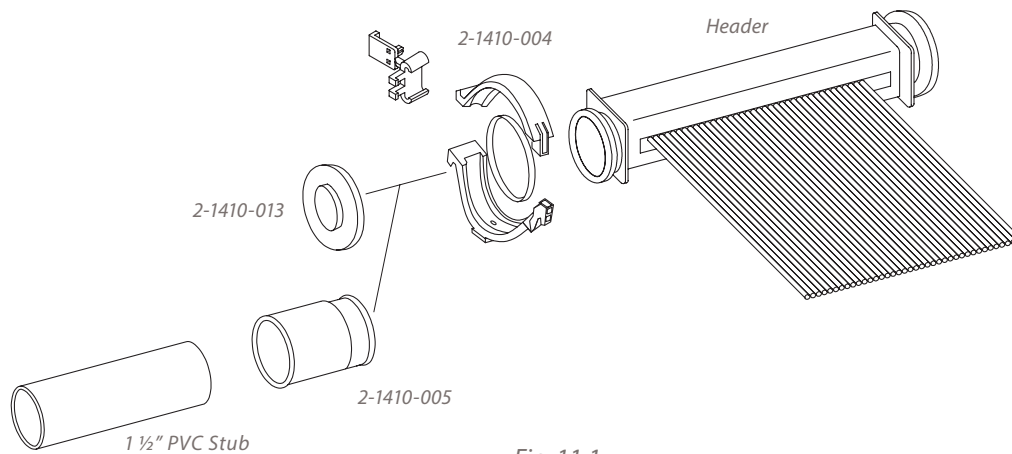

Fig. 11.1
3. Cement the PVC pipe to the (2-1410-005) pipe connector as shown in Fig. 11.1.
4. The (2-1410-005) Pipe Connector allows (1) 1/2" PVC Pipe or a (1) 1/2" St. 90 to be glued directly into the socket, or a 2" PVC 90 to be glued on the outside. CPVC or **multi-purpose glue** should be used when attaching PVC fittings or pipe to the pipe connectors to provide for a durable connection. A 90 degree PVC fitting and vertical pipe run of at least 5' should always be attached to the return line pipe connector to allow for lateral expansion and contraction of the return line pipe run.